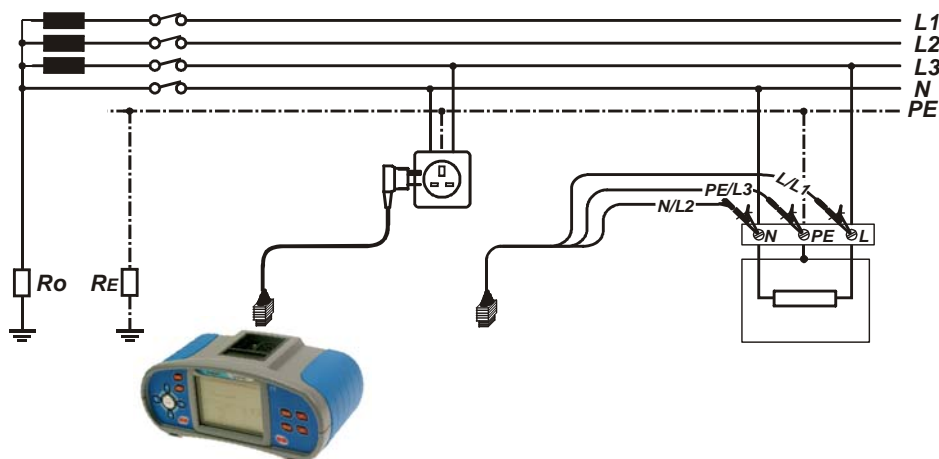

Figure 5.36: Connection of plug cable and universal test cable
- ❑ **Connect** test leads to the tested object (see figure 5.36).